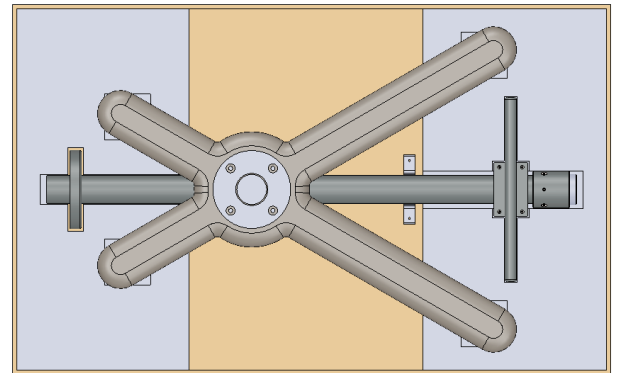

Figure 1
- Open the bigger box and remove the top level foams. Lift the base casting holding at corners and place it on the floor as shown in Figure 1 and Figure 2. Lock the wheels.